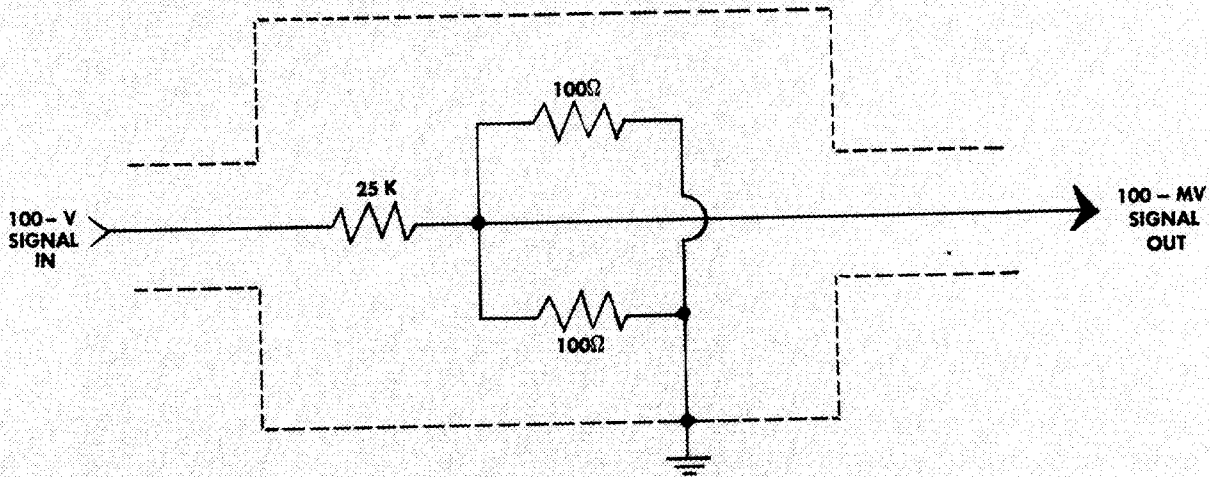

Fig. 6-1. 100 MV Calibrator 50 Ω Adapter circuit.
- (3) Tektronix Type 113 Delay-Cable Unit or equivalent to provide 60 nsec of delay time. Risetime of the delay cable should be ≤ 0.1 nsec. (Not needed with Tye 111 Pre-Trigger Pulse Generator).
- (4) Tektronix 1, 5, 10 and 20 nsec/cycle "ring box."
- (5) VTVM (preferred) or a 20,000 Ω /volt dc voltmeter.
- (6) The following coaxial cables are required:
- (7) 100-mv Calibrator 50 Ω Adapter for the Type N Unit to provide a properly terminated 100 mv signal from the square-wave calibrator (or construct unit shown in Fig. 6-1).